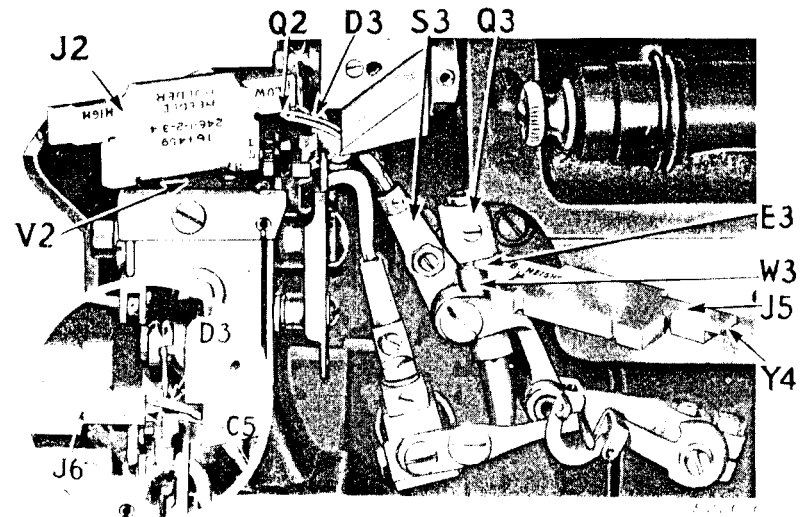

Fig. 6. Setting the Right Looper
(See Figs. 6 and 7)
1. When the right looper carrier is at its extreme left position, the distance between the bracket **Q3** and the guide bar **W3** should be at least equal to the thickness **E3** on the "LOW" side of the gauge shown at **J5**, **Fig. 6**. However, this clearance must be not greater than the thickness **Y4** on the "HIGH" end of the gauge.
3. Insert the looper **D3** in the looper carrier **S3** and place the gauge on the throat plate seat, as shown at **J2**, **Fig. 6**. When the right looper **D3** is at its extreme left position, it should just touch the undersurface **Q2** on the "LOW" end of the gauge.
4. When the right looper passes the left looper, it should pass behind the left looper head and in front of the needle. Place the "HIGH" end of the gauge, as shown at **J6**, in the insert in **Fig. 6**, against the left side of the needle. Turn the machine pulley until the right looper **D3** is at its extreme left position. At this point, the tip of the right looper **D3** should just touch the surface **C5** of the gauge.